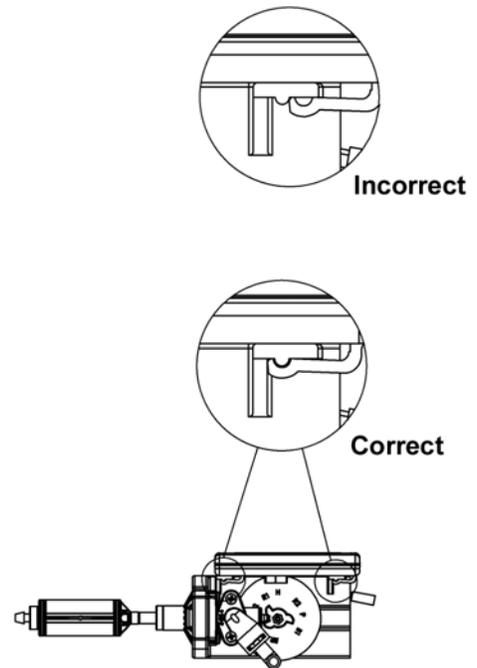

Figure 15: Controller Tab Lock Detail
**Note:** Ensure that the bottom of the controller is firmly locked onto the four tabs on the top of the drive end cap assembly. See Figure 15.